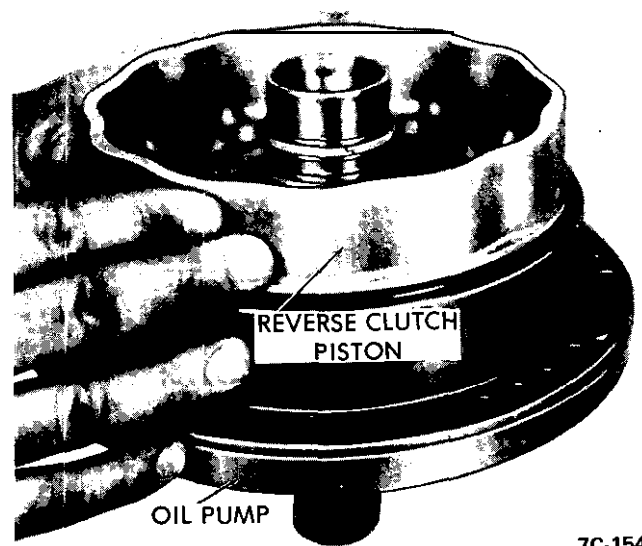

Figure 7C-154
30. Install new oil seals on reverse clutch piston. See Figure 7C-153.